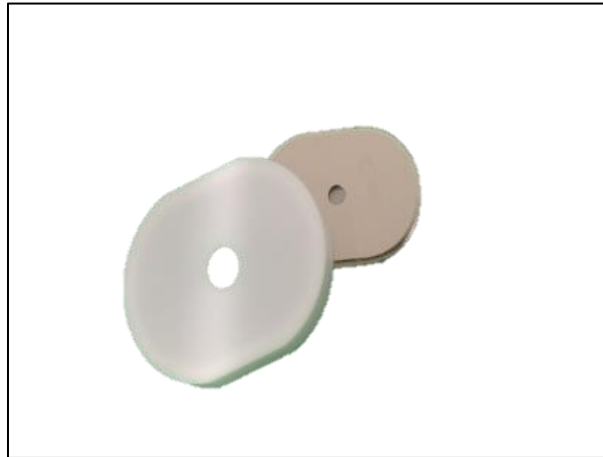

Figure 5. Calibrated radiometer and cover
- Place the Teflon cover over the radiometer (see Figure 5. Calibrated radiometer and cover)